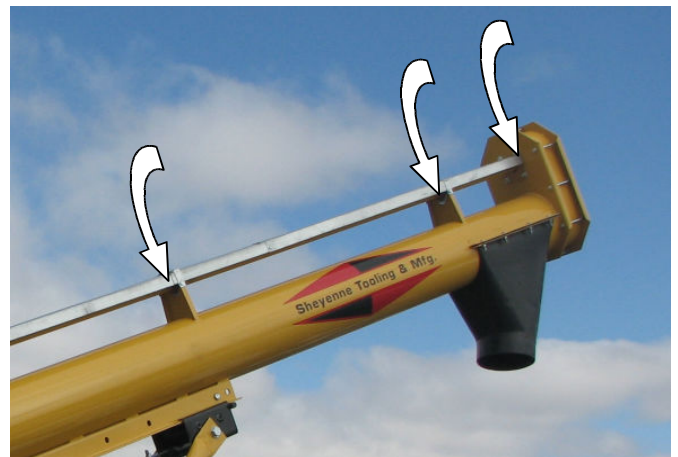

Fig. 27 ADJUST LINESHAFT BEARINGS
7. By adjusting the lineshaft bearings, the bow in the lineshaft will be minimized. See Fig. 27.